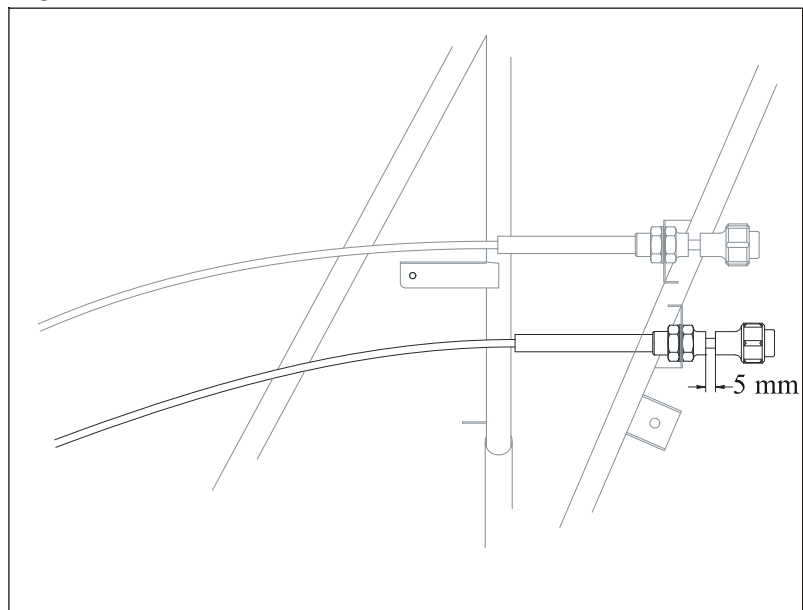

Figure 7 Over-travel at Mixture Control Unit,
- 2 Check that the travel stop at the mixture control lever is reached, and the over-travel of 5mm [3/16"] (tolerance +/- 1 mm [1/32"]) is ensured at the mixture control knob (see Figure 7).